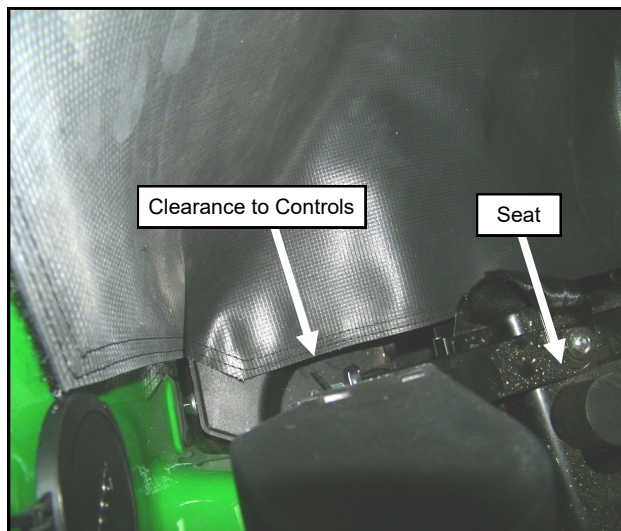

Fig. 19.3 (Controls Next to Seat)
19.3 Ensure the filler does not interfere with operation of the controls next to the seat. See Figure 19.3.